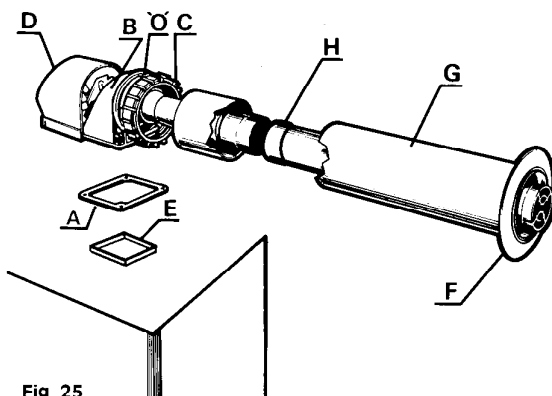
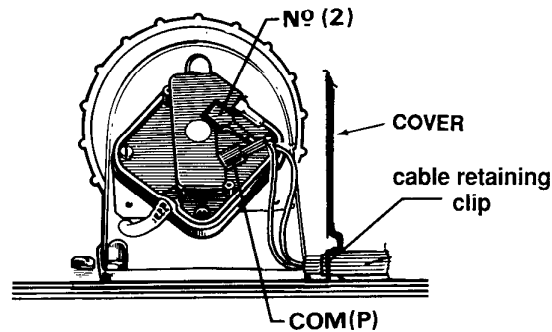

Fig. 25
Fig. 26
- b) Push spade terminals onto tags COM (P) and No (2) – the common and normally open contacts – polarity immaterial.
- c) Fit turret cover (D) (fig. 25) ensuring that both the air tube and cables are not trapped, with the **cable retaining clip** positioned as shown, see fig. 26, within the cover.
- N.B.** NC (1) Terminal is not used.